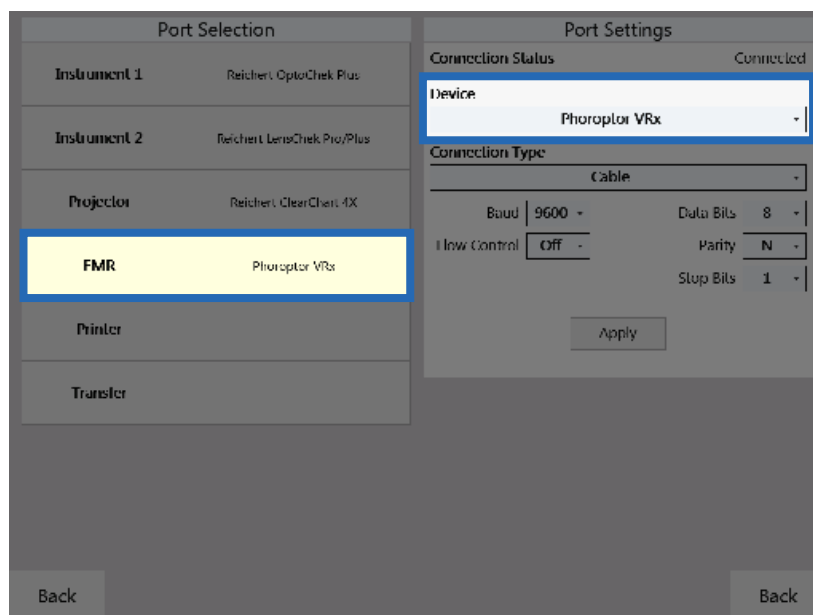

Figure IS-25, Port Settings Screen
3. In the Port Selection panel, tap **EMR**. Refer to Figure IS-25.